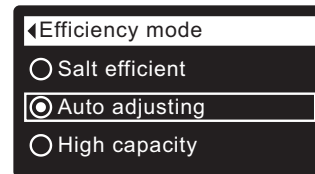

FIG. 91
8a. Efficiency mode: If the desired efficiency mode already has a dot next to it (See Figure 91), go to Step 9. Otherwise, press the DOWN (▼) or UP (▲) buttons to scroll to the desired efficiency mode, then press SELECT (O) to choose it.